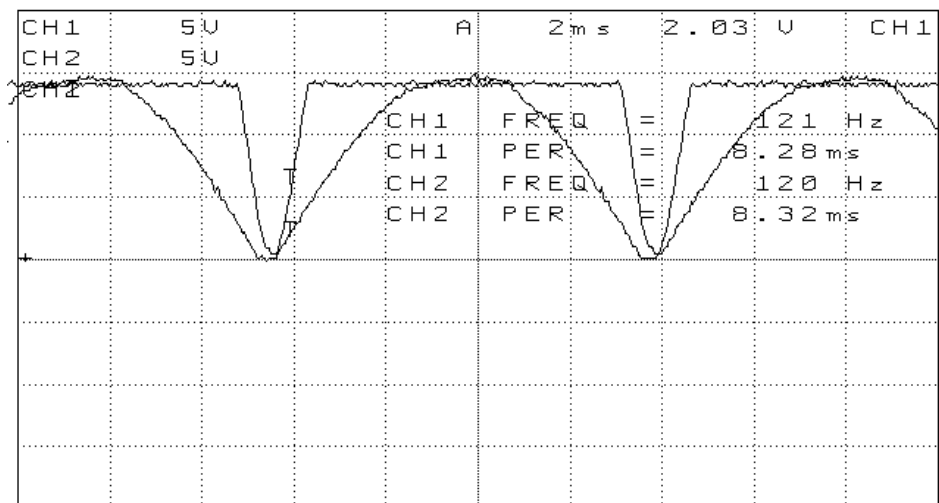

Figure 5.
- i. Connect variac to isolation transformer and set so that the secondary of the isolation transformer is 35V P-P (12.36VAC on DVM). Connect the secondary leads to JACCT1 and JACCT2. Install the 200 Ω , 5W resistor between SC7 and SC8. Apply power and observe 15V peak full wave rectification at SC7 and observe squared off rectification at TP16 with channel 1 and channel 2 respectively of oscilloscope (see FIGURE 5.). Observe TP16 waveform at CP93, now touch JA50 to COM and observe that the waveform at CP93 inverts. Repeat the above for the secondary leads connected to JACCT3 & JACCT4 and then again for JACCT5 & JACCT6. Check for continuity between CP80 & SC10 and CP81 & COM.